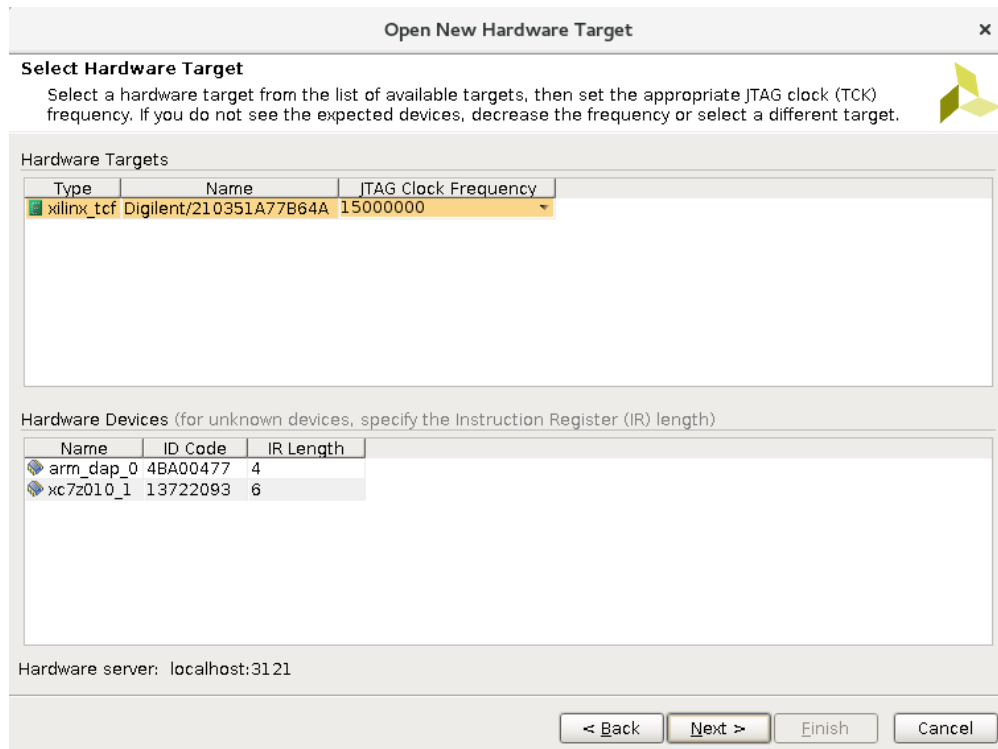

Figure 5: Hardware Target
- (b) Once the bitstream generation is completed, we need to download the bitstream to the FPGA on the ZYBO Z7-10 board. Turn on the power to the ZYBO Z7-10 board and make sure that the jumper JP5 is set in 'JTAG' mode. In the 'Flow Navigator' window, under the 'Program and Debug' panel click on 'Open Hardware Manager'. Click on 'Open Target' and in the pop up select 'Open New Target' which will open the 'Open New Hardware Target' window. Click 'Next'. select 'Local Server' in the 'connect to' field. Click 'Next'. Select 'xilinx_tcf' in Hardware Targets and 'xc7z010_1' in Hardware Devices as in (Figure 5). The 'arm_dap.0' device is ARM Cortex Processor which is not needed for this lab. Click 'Next' and go through the summary and Click 'Finish'. Click on 'Program Device' under 'Hardware Manager' and select the FPGA 'xc7z010_1'. Click 'Program' to program the FPGA on the ZYBO Z7-10 board.